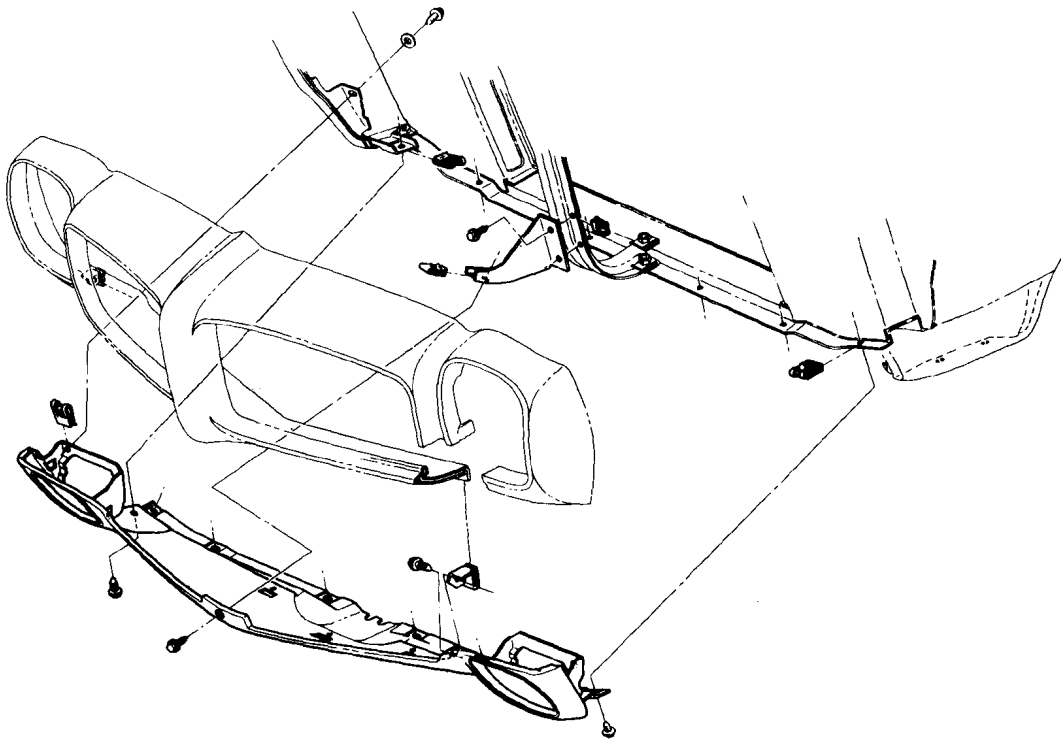

Fig. 14-10 F Series Valance Panel
2. Remove valance panel (Fig. 14-10).